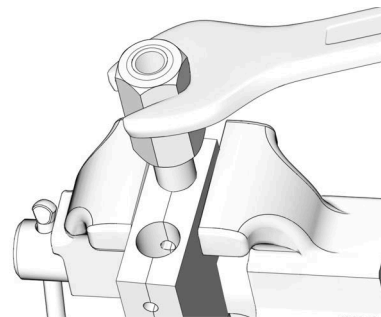

FIG. 4
9. Turn the hose sleeve slowly counter-clockwise with a tool until the bottom edge of the hose sleeve is aligned with the mark made on the hose (FIG. 4).